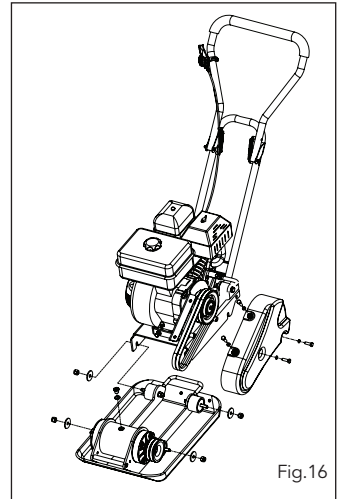

Fig.16
1. Let exciter (9) cool before changing exciter oil.
3. Loosen the bolts that hold the engine deck (12) to the compacting plate (11).
4. Lift the engine deck (12), with the engine attached, from the compacting plate (11). (Fig. 16)